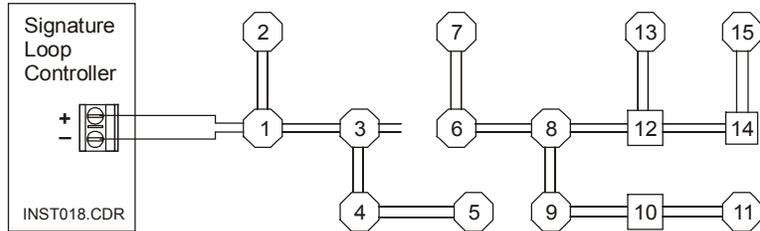

Figure 5-4: Typical isolation procedure
4. Isolate portions of the SDC to locate the cause (Figure 5-4).